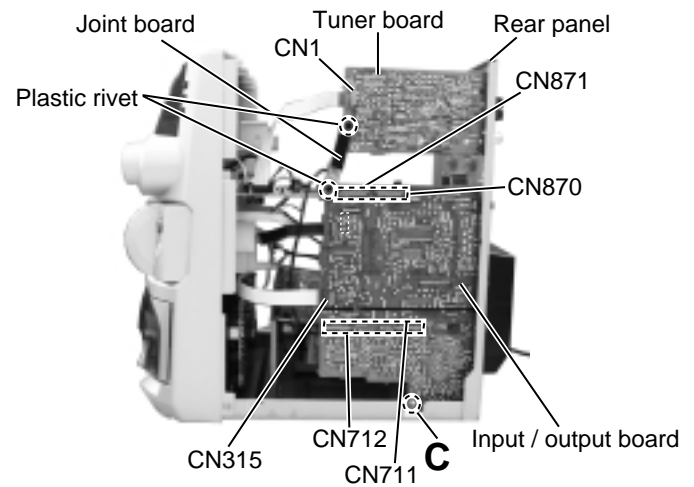

Fig.22
■ Removing the tuner board (See Fig.22 and 23)
■ Removing the input / output board (See Fig.22 and 23)